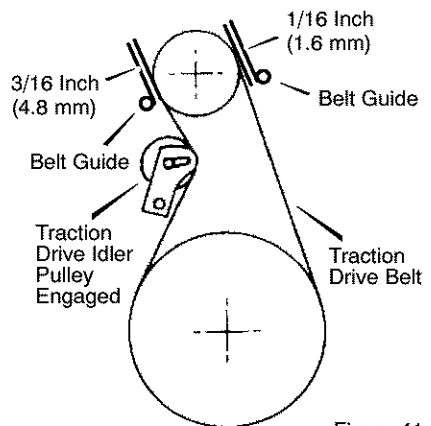

Figure 41
3. Measure the distance between the two **belt guides** and **traction drive belt**. Set the distance for the two **belt guides** as shown in Figure 41.